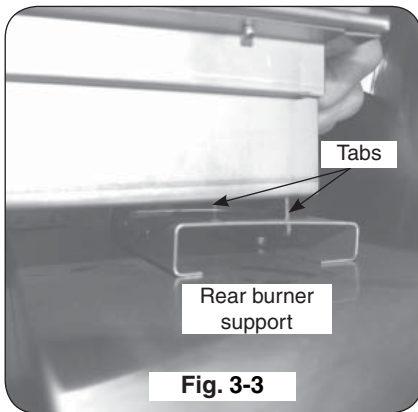
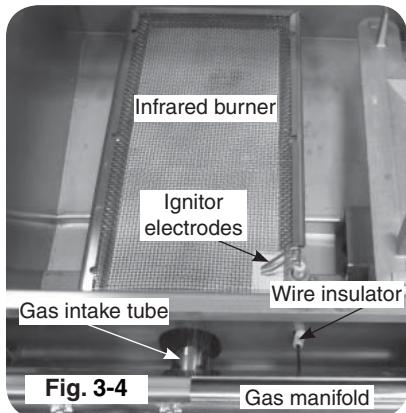

Fig. 3-3
Fig. 3-4
4. Place the new infrared burner gas intake tube in the hole in the oven fire wall and over the orifice fitting, sliding it forward from behind the face frame, so the orifice is centered inside the burner gas tube. Set it gently onto the rear burner support, making sure the tabs on the back burner bottom each fit through their respective slots in the rear burner support. This is critical to the safe function of the grill. (See Fig. 3-3 and Fig. 3-4.)